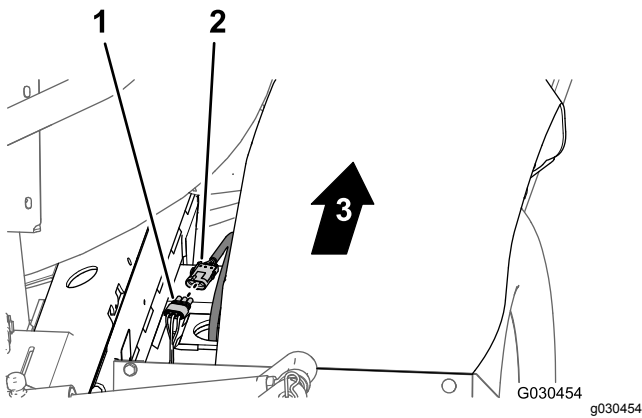

Figure 54
- At back of the machine (between the right frame tube and the right fender) disconnect the 3-pin connector of the speed-sensor harness at the right hydraulic-traction motor from the 3-socket connector of the rear, main harness (Figure 54).